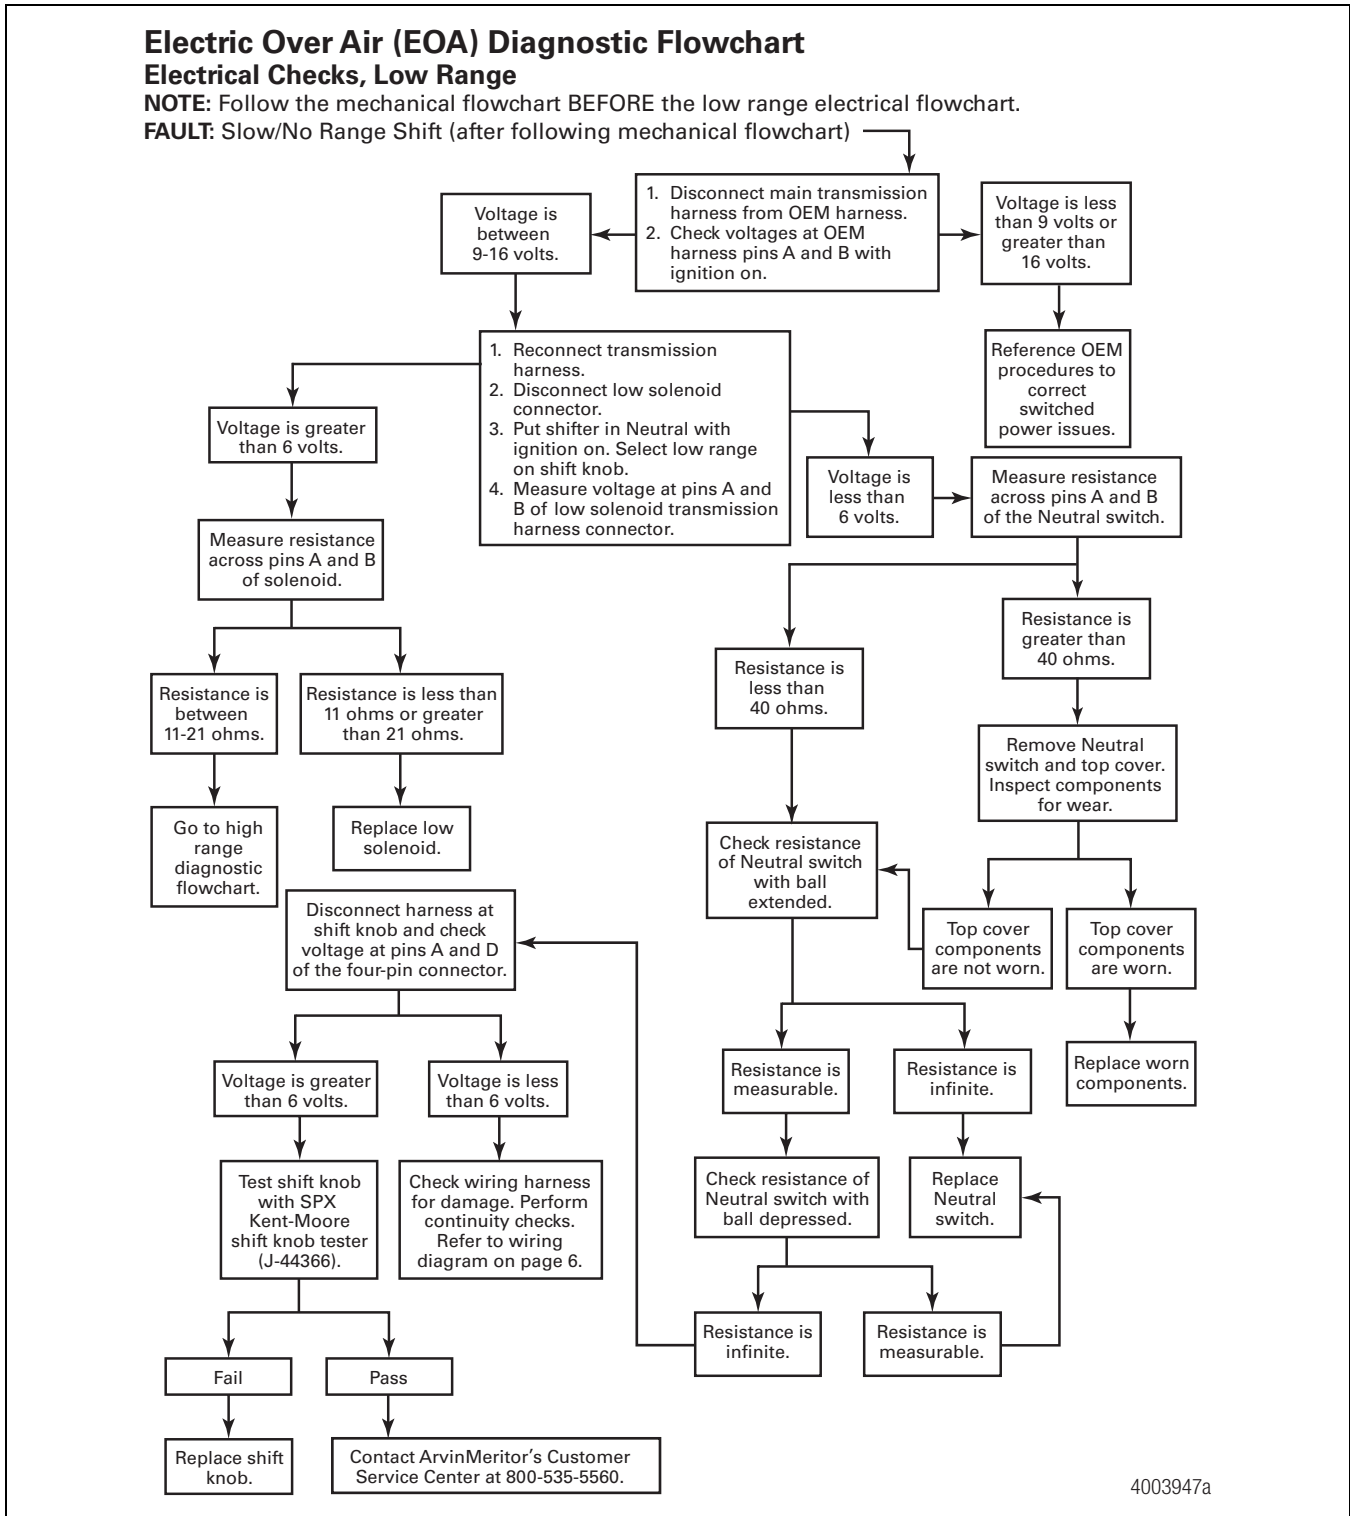

Figure 9.56
2. Low Range Electrical Checks — Follow the low range electrical checks flowchart to verify that the low electrical system functions correctly. Perform low range electrical checks AFTER mechanical checks and BEFORE high range electrical checks. Figure 9.56.